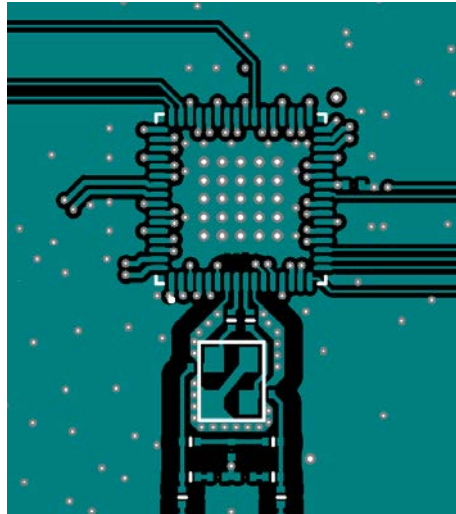
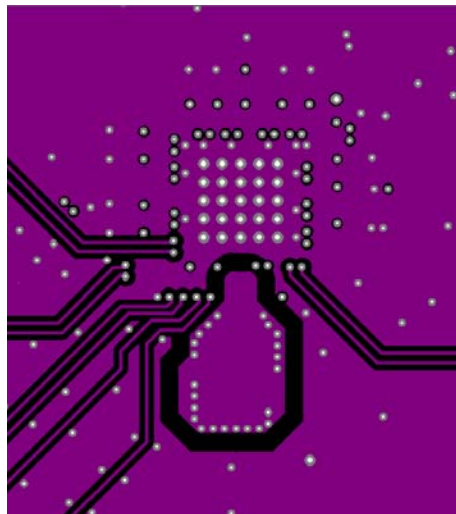

Figure 27. 64-pin Si5341 Crystal Layout Recommendations Top Layer (Layer 1)
Figure 28. Zoom View Crystal Shield Layer, Below the Top Layer (Layer 2)
Figure 27 is the top layer layout of the Si5341 device mounted on the top PCB layer. This particular layout was designed to implement either a crystal or an external oscillator as the XAXB reference. The crystal/ oscillator area is outlined with the white box around it. In this case, the top layer is flooded with ground. Note that this layout has a resistor in series with each pin of the crystal. In typical applications, these resistors should be removed.
3. Connect the crystal's GND pins to the DUT's X1 and X2 pins via a local crystal shield placed around and under the crystal. Make sure that X1, X2, and both crystal ground pins do NOT connect to the pcb ground. See Figure 27 for an illustration of how to create a crystal shield by placing vias connecting the top layer traces to the shield layer underneath. Note that a zoom view of the crystal shield layer on the next layer down is shown in Figure 28.
Figure 28 shows the layer that implements the shield underneath the crystal. The shield extends underneath the entire crystal and the X1 and X2 pins. This layer also has the clock input pins. The clock input pins go to layer 2 using vias to avoid crosstalk. As soon as the clock inputs are on layer 2 they have a ground shield above below and on the sides for protection.